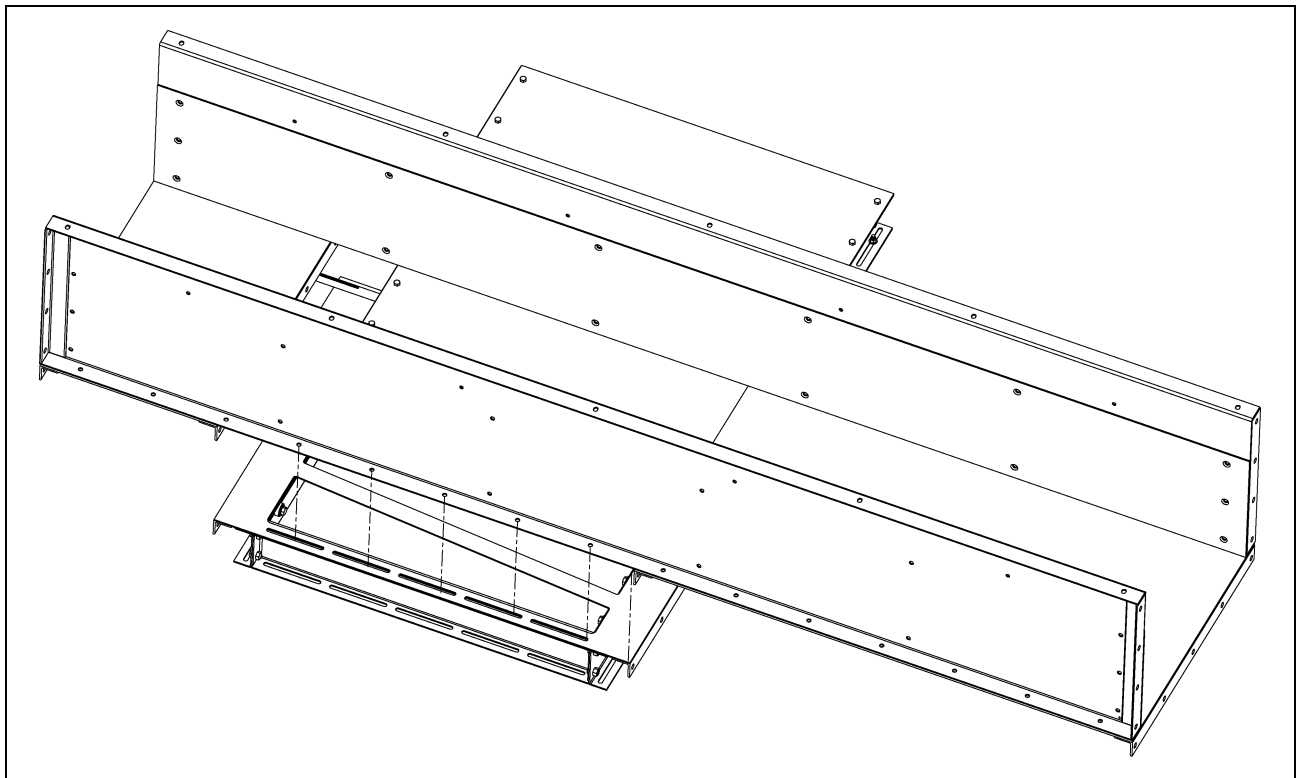

Figure 3J
6. On the sides of the gate frame, there are some duplicate holes in the open portion of the gate that need to be sealed with silicone. *(See Figure 3J.)*